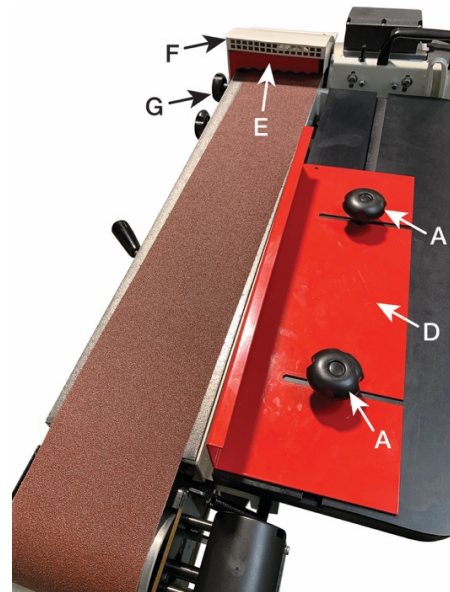

Figure 10-2
For horizontal sanding, the platen is locked in the horizontal position as shown in Figure 10-2 and the removable fence (D, Figure 10-2) is secured to the table as follows.
2. Place 5/16 flat washers (not shown) and guide blocks (B) on two 12mm lock knobs (A) – Note: the 12mm refers to the threaded shaft length.
3. Insert both guide blocks/lock knobs into the miter slot (C).
4. Place the removable fence (D, Figure 10-2) on the table and secure by tightening the lock knobs (A, Figure 10-2).
The backstop (E, Figure 10-2) can also be used by swiveling the dust port/drum guard (F, Figure 10-2) out of the way and placing the backstop in position and securing in place with the lock knob (G, Figure 10-2) and 5/16" flat washer.